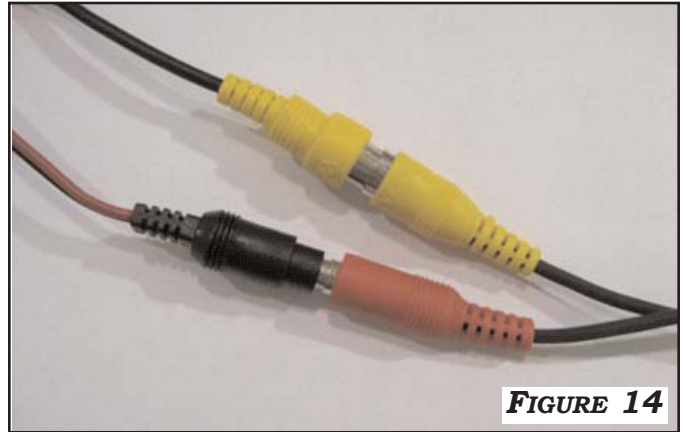

FIGURE 14
2. CONNECT **MALE RCA** VIDEO CONNECTOR OF CAMERA EXTENSION HARNESS TO **VIDEO** INPUT (YELLOW CONNECTOR) OF INTERFACE ADAPTER HARNESS. CONNECT **MALE DC** POWER CONNECTOR OF CAMERA EXTENSION HARNESS TO CAMERA **POWER** OUTPUT (BLACK CONNECTOR) OF INTERFACE ADAPTER HARNESS. WRAP ALL **RCA** AND **DC** CONNECTORS WITH THE FOAM TAPE PROVIDED. **FIGURE 14**